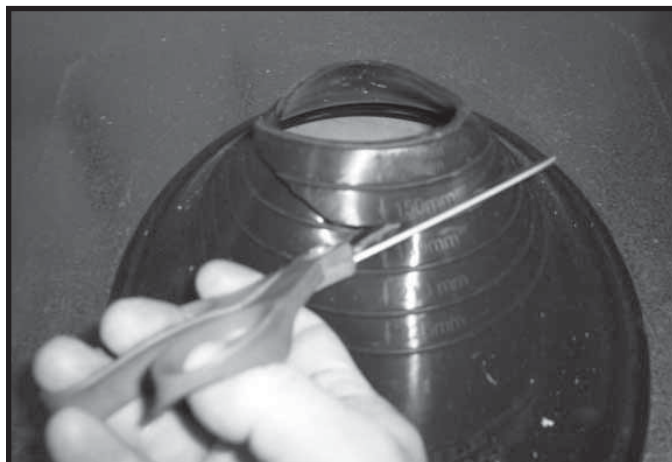

Figure 10.19 Trim Rubber Boot
- Trim the rubber boot (using scissors or a utility knife), cutting along the marked measurement lines. See Figure 10.19. Use the 210 mm for DVP.